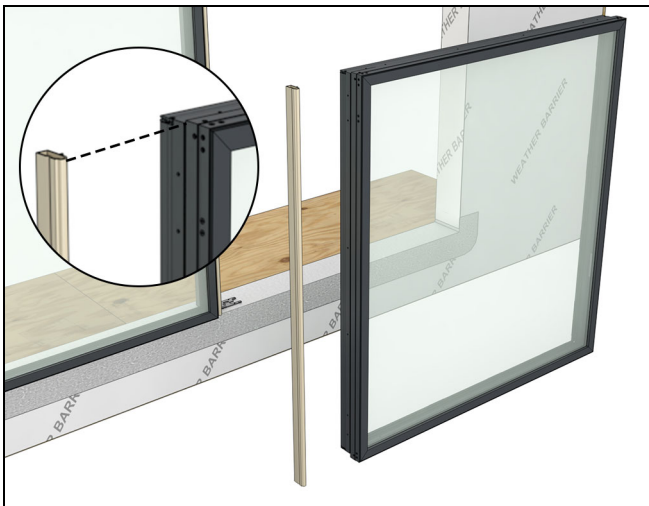

Figure 134
19. Cut the mull filler to length and apply on the B2 unit. The filler should stop about 3/8" from the bottom and flush with the top. See Figure 134.